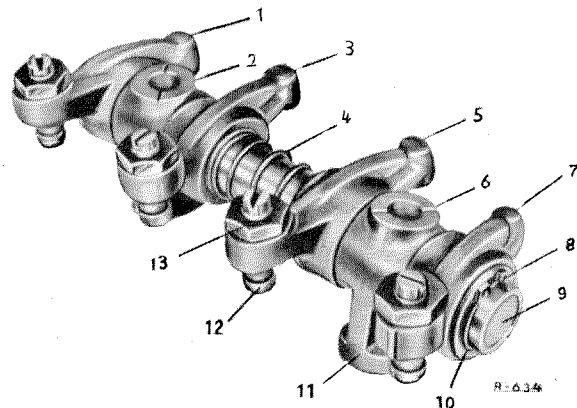

Figure 05-2/4
in the rocker bracket (11) pointed towards the ball-head bolt of the rocker (5) for the inlet valve and the oil groove (6) in the rocker bracket (2) towards the ball-head bolt of the rocker (3) for the inlet valve (see Figure 05-2/4).
In this arrangement the oil from the grooves of the rocker brackets splashed exactly in the direction of the oil filler. On the engines, on which the filler cap of the oil filler also serves to ventilate the crankcase, this arrangement caused loss of oil through the oil filler. By exchanging the rocker brackets (11) and (2) the oil splashes now on the ball-head bolts of the rockers (7 and 1) for the exhaust valves (see Figure 05-2/3). By this a loss of oil through the oil filler and/or air vent filter is prevented.
On the engines of the type 636.930, 636.919 and 636.934 the rocker brackets must be mounted as shown in Figure 05-2/3.